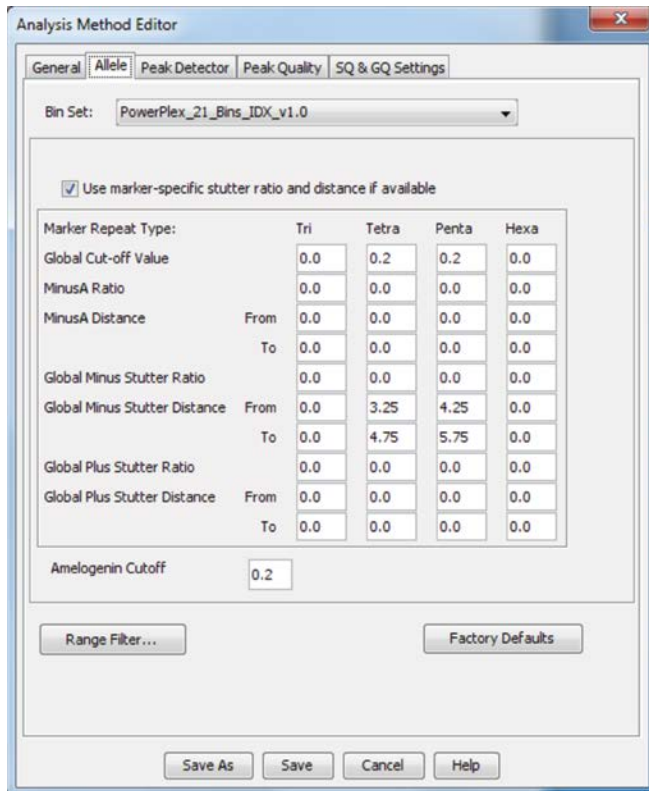

Figure 16. The GeneMapper® ID-X Allele tab.
6. Select the Allele tab (Figure 16).
8. We recommend the values shown in Figure 16 for proper filtering of stutter peaks when using the PowerPlex® 21 System. You may need to optimize these settings. In-house validation should be performed.